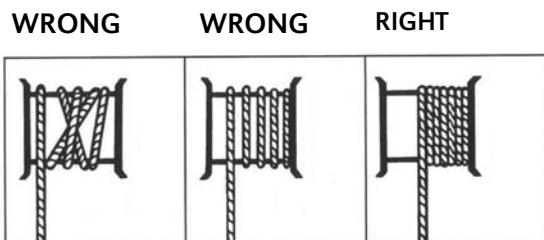

Fig. 1
- Check that the wire is evenly spooled around the drum (see Fig. 1). If the wire is not evenly spooled, uncoil it and spool it carefully again. It is recommended to use the remote con-